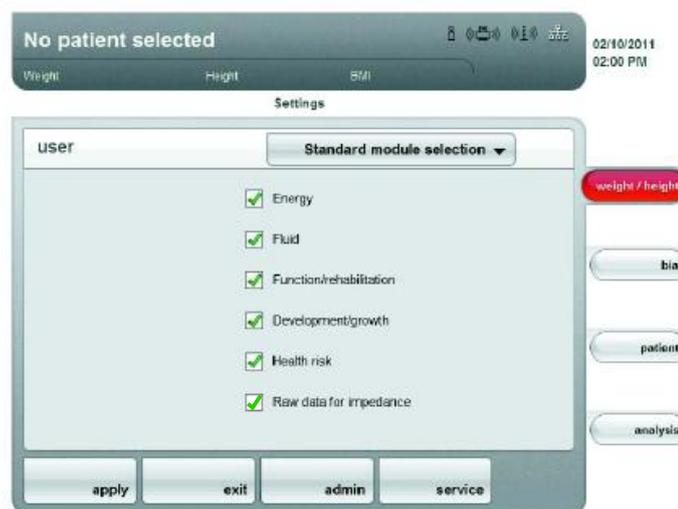

Figure 7.
15. Carry out the measurement by performing the long (75 second) test. This requires you to make sure that all the boxes are ticked (**including the "raw data for impedance" box**) when you are viewing the screen shown in figure 7. Do not touch the machine whilst the measurement is in progress.